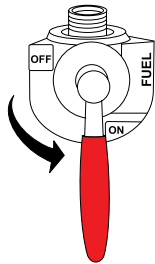

Figure 12. Fuel Tank ON/OFF Valve (ON)
2. Place the fuel tank ON/OFF valve (Figure 12) in the **ON** position.